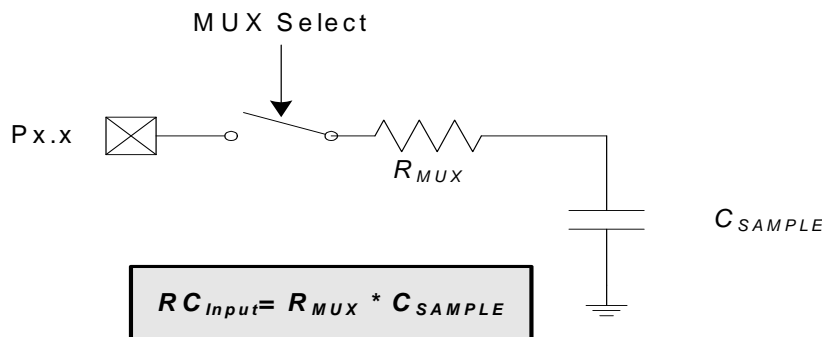

Figure 6.5. ADC0 Equivalent Input Circuit
Figure 6.5 shows the equivalent ADC0 input circuit. The required ADC0 settling time for a given settling accuracy (SA) may be approximated by Equation 6.1. When measuring the Temperature Sensor output, use the settling time specified in Table 5.10. When measuring V_{DD} with respect to GND, R_{TOTAL} reduces to R_{MUX} . See Table 5.9 for ADC0 minimum settling time requirements as well as the mux impedance and sampling capacitor values.